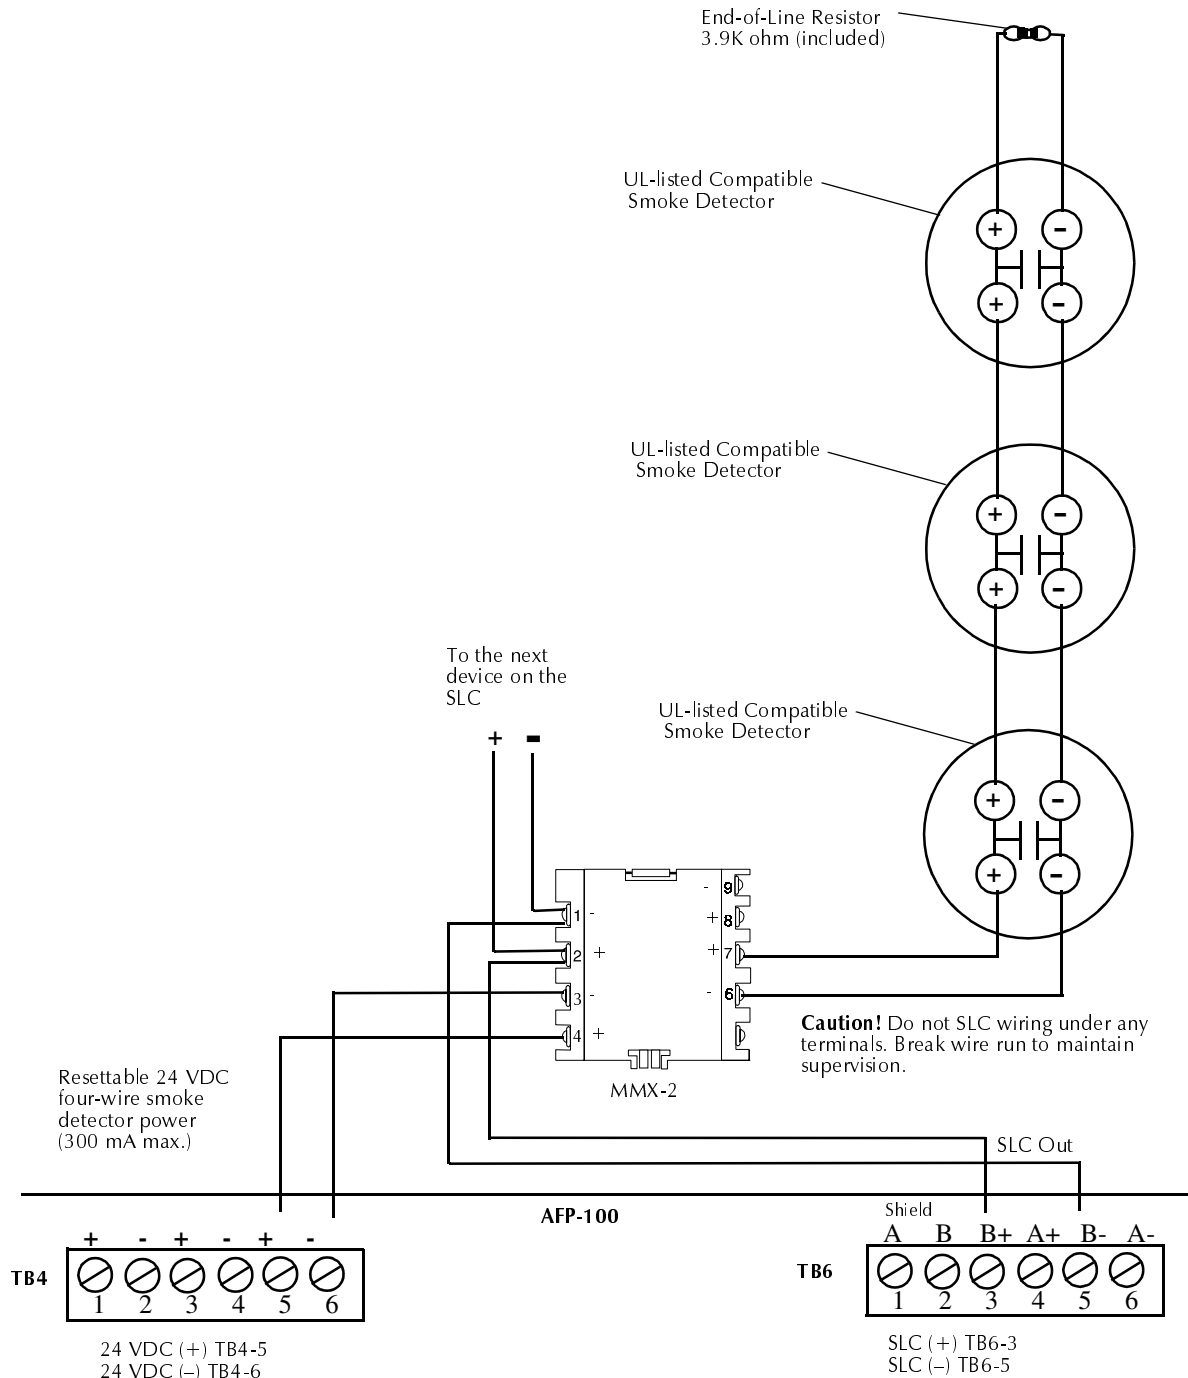

Figure 30 Style B IDC using an MMX-2 Module
**NFPA Style B Initiating Device Circuit** Connect two-wire smoke detectors to MMX-2 terminals 6 (B–) and 7 (B+) as illustrated in Figure 30, “Style B IDC using an MMX-2 Module,” on page 47. IDC installation wiring must not exceed 25 ohms, 12-18 AWG (0.75 - 3.25 mm2) wire. Use a 3.9K ohm ELR across the last initiating device.